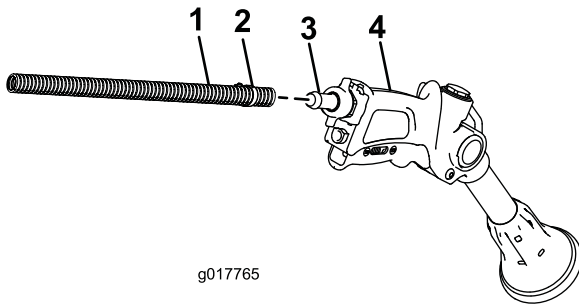

Figure 14
2. Connect the free end of the long hose to the fitting on the spray gun (Figure 14).